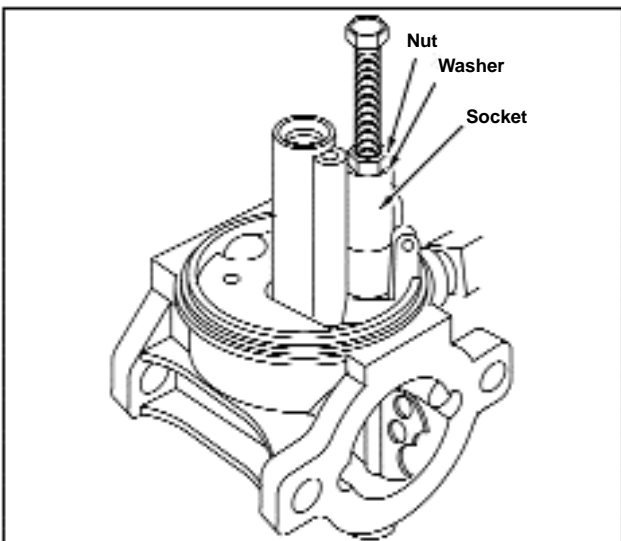

Figure 48 - Removing Fuel Inlet Seat
6. Thread nut down onto washer and continue turning nut until inlet seat is free from carburetor body. See Figure 48.